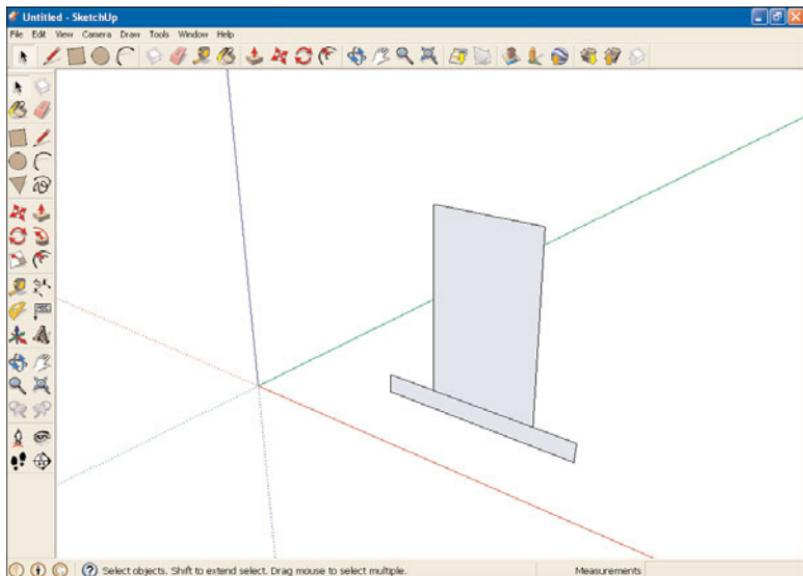

FIGURE 9.6 A door.
To see what that means, take a look at the door in Figure 9.6.
3. Draw the door and lintel as shown in Figure 9.6.